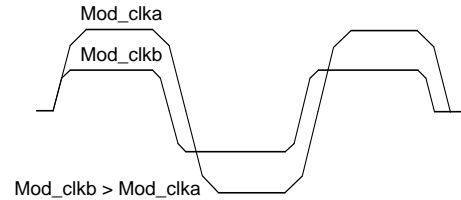

Figure 20. Two Different Modulator Clock Setting
A  $f_{\text{MOD\_CLK}}$  of 8 times the bit rate (as in Figure 20) corresponds to a signal filtered in a Gaussian filter with a Bandwidth Period product (BT) of 1. When BT is increased, the waveform will be less filtered. Minimum BT is 1 ( $f_{\text{MOD\_CLK}}$  is 8 times the bitrate). Figure 20 shows two waveforms with BT=1 and BT=2, i.e. the  $f_{\text{MOD\_CLK}}$  is 8 and 16 times higher than the bit rate. When changing the BT factor, the charge-and discharge times will also be changed, and therefore the frequency deviation, as shown in Figure 20.